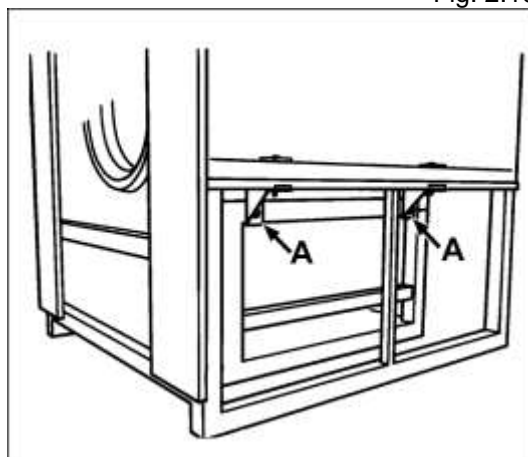

Fig. 2.11
- Locate the four yellow fixing angles (Fig.2.11/A) and disassemble them.